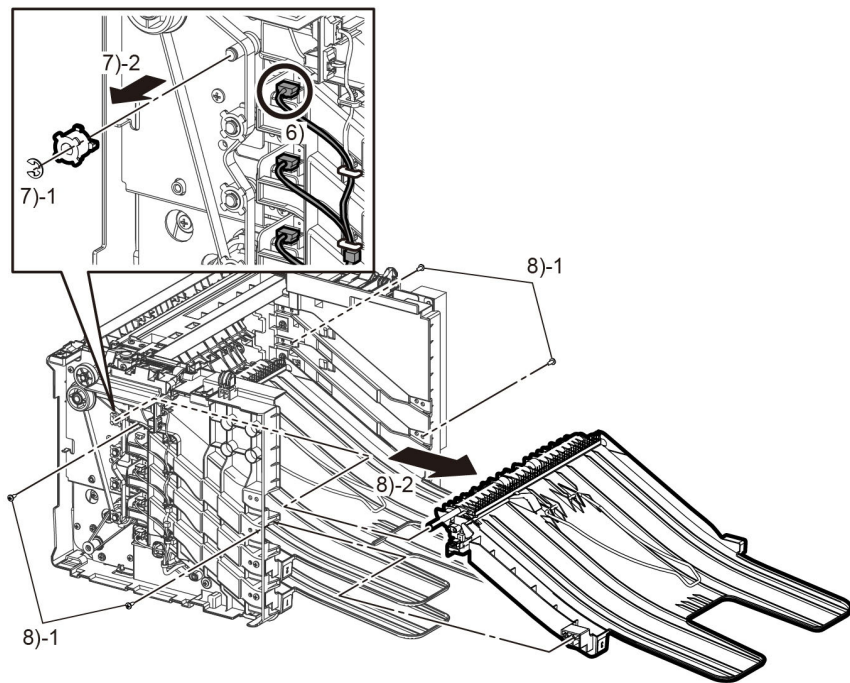

Figure 2 3rd tray assembly
6. Disconnect the connector P/J8934, Figure 2.
7. Remove the items that follow, Figure 2:
8. Remove the items that follow, Figure 2: